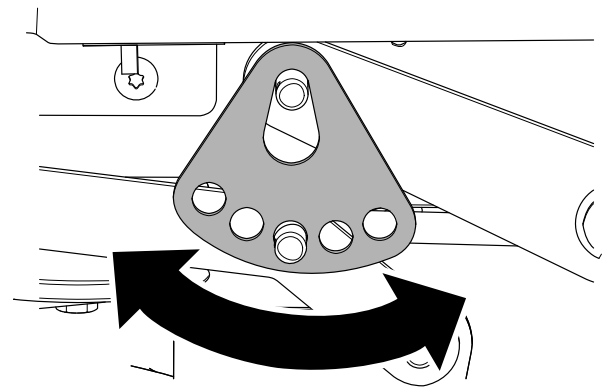

**Figure 64**
6. Remove the hairpin cotter and washer from the lower lift-arm pin (Figure 64).
8. Install the washer and hairpin cotter (Figure 64).